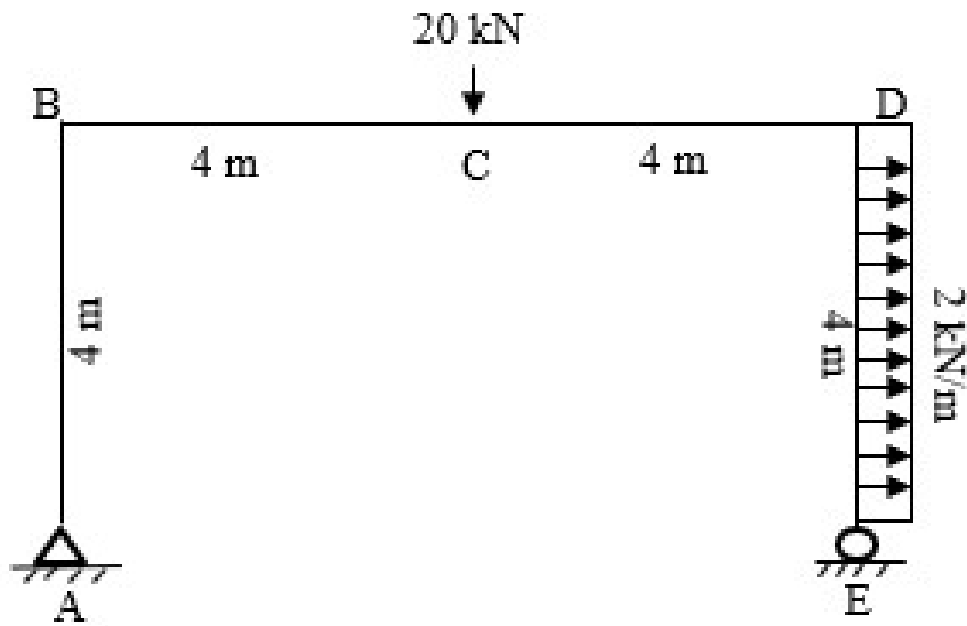

Figure 4
- (c) Draw shear force, bending moment and axial force diagram for the rigid jointed frame as shown in figure 4. 07